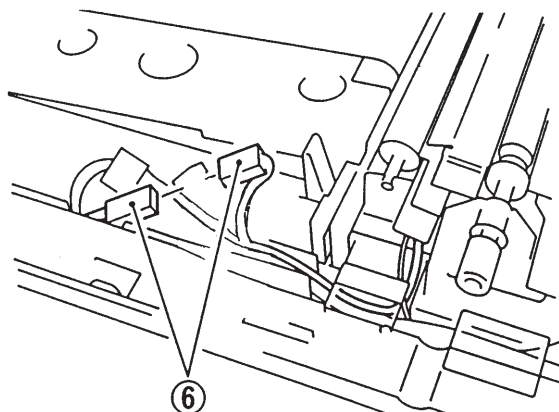

Figure 4-328
- 9) Connect the connector ⑥ as shown in Figure 4-328.